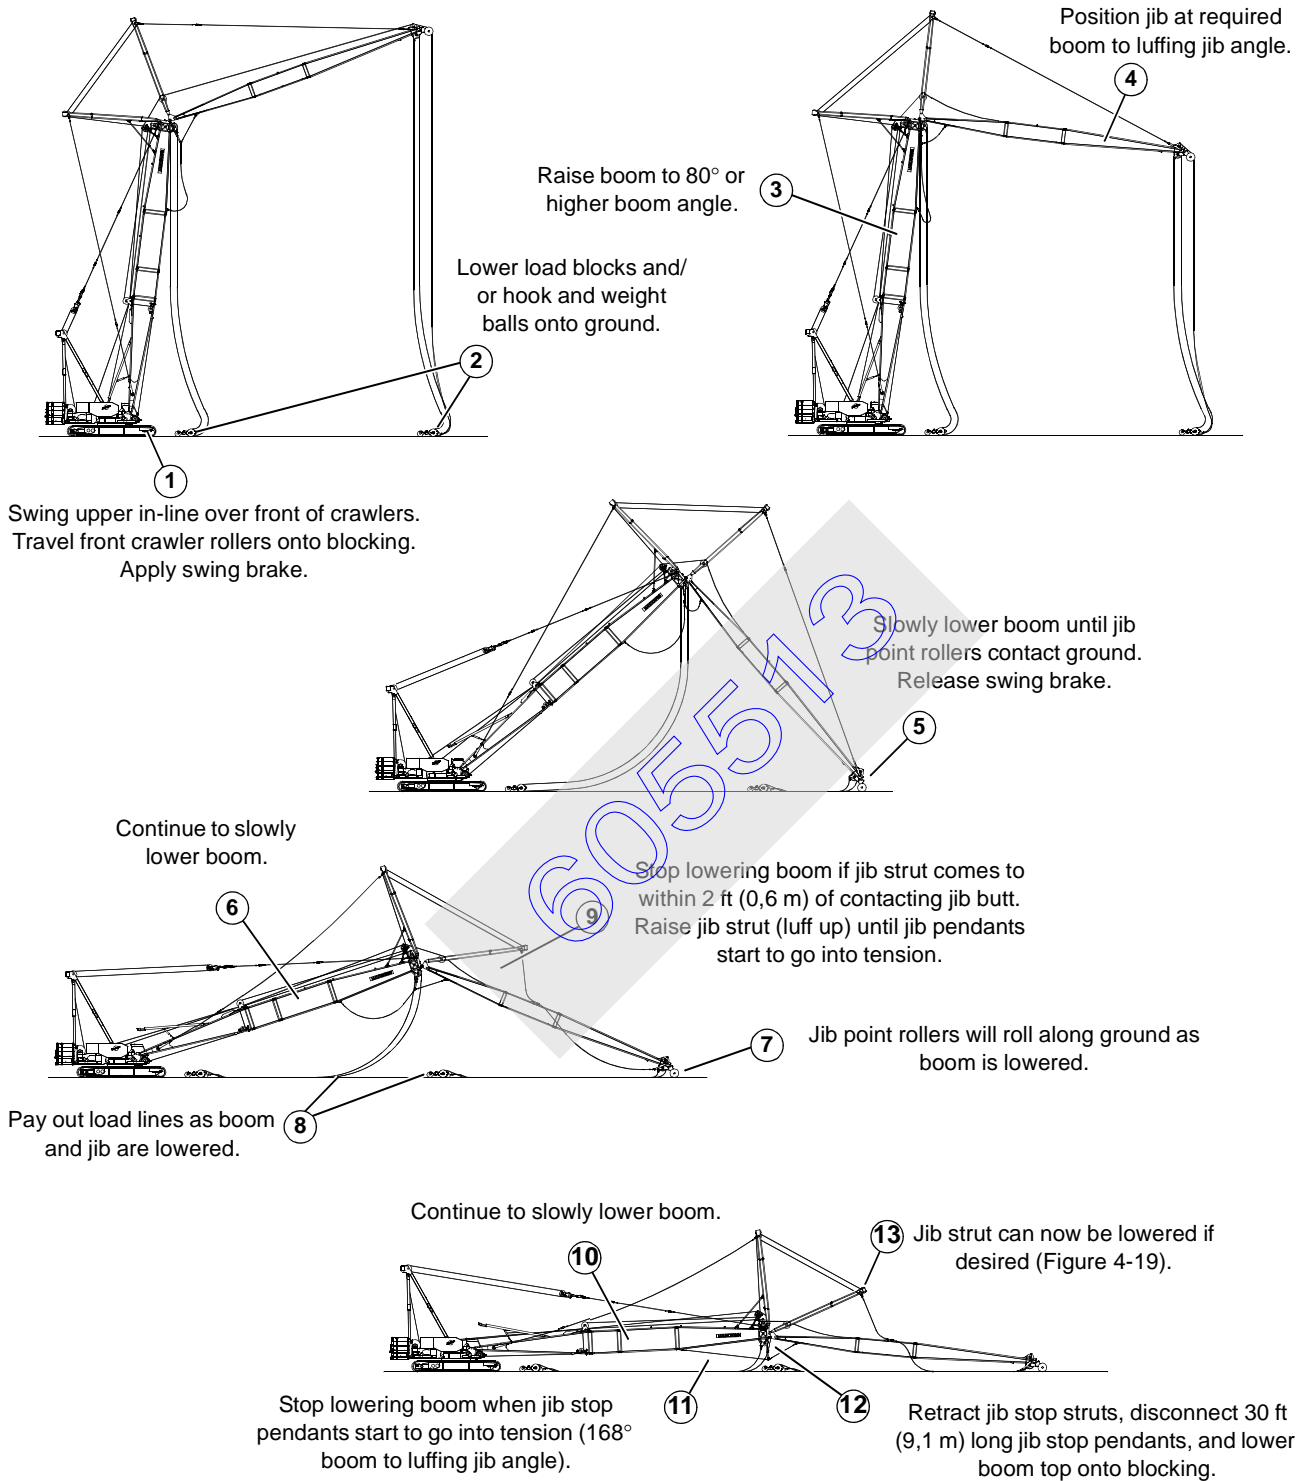

FIGURE 4-18
5. If boom and jib will be lowered using **Jack-Knife Method**, proceed as follows (Figure 4-18):